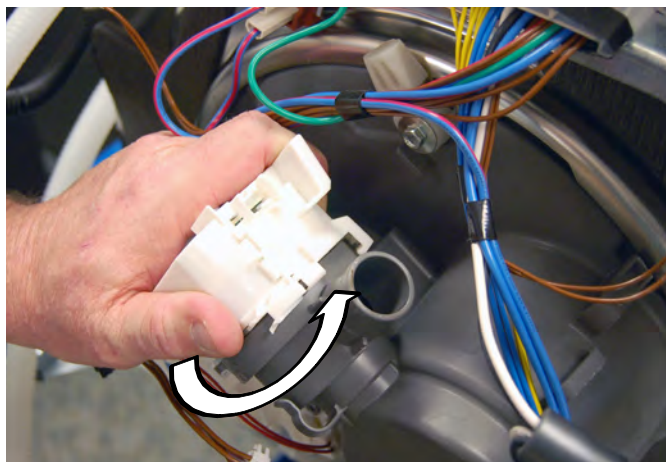

Figure 6
5. Rotate the drain pump 1/4 turn counterclockwise, see figure 6.